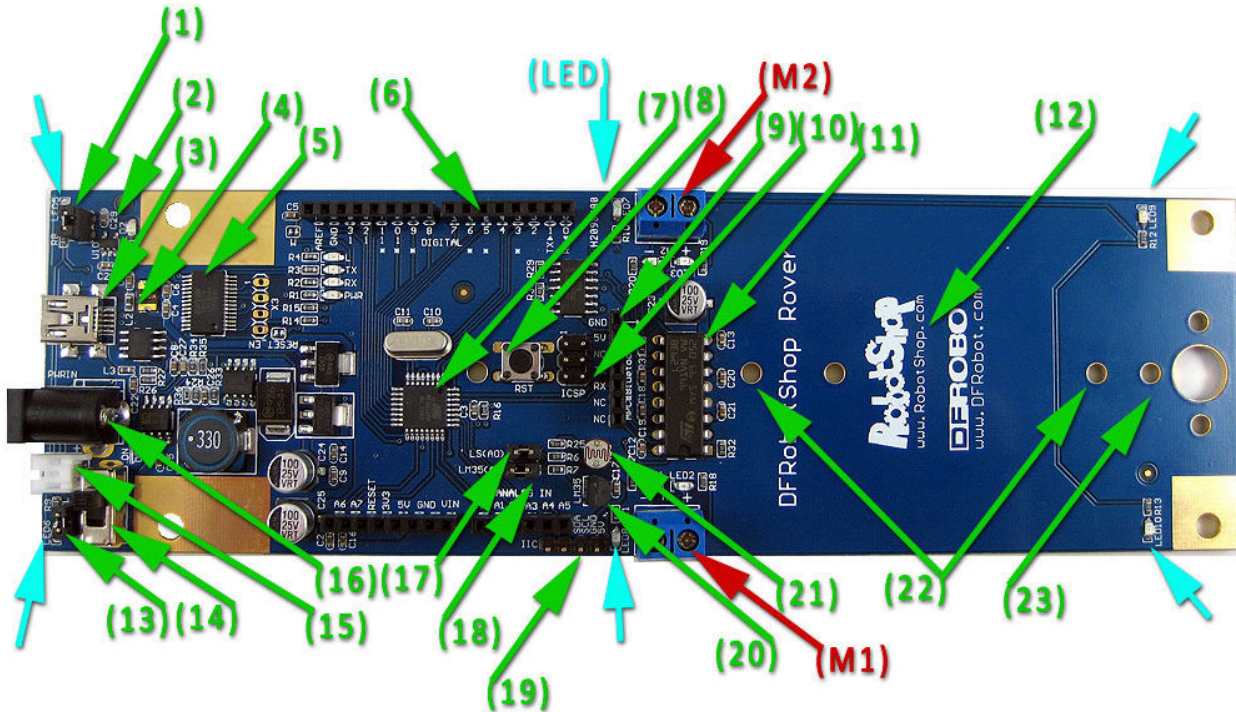

Figure 1: DFRobotShop Rover V1.5 Features
- (14) Motor On/ Off switch
- (15) Mini JST connector (powers board and motors)
- (16) Barrel connector (powers board and motors)
- (17) Light sensor jumper (connects light sensor to analog pin 0)
- (18) Temperature sensor jumper (connects temperature sensor to analog pin 1)
- (19) I2C connector
- (20) LM35 temperature sensor5
- (21) Light sensor4
- (22) 4xAA battery holder holes
- (23) Universal connection point
*\*Important note: jumper (1) in figure 1 should only be in place when using a LiPo battery connected to (15), otherwise remove.*
1. **USB**: Connecting a USB cable (sold separately) will power the microcontroller – not the motors. If you have L1\_SEL jumper in place, it will also charge any LiPo battery connected to the white mini JST connector (15).
- a. **4x AA Battery Pack**: The DFRobotShop Rover includes a 4xAA battery pack which can be connected directly to the white power input at the back of the board. Both alkaline (1.5V) and rechargeable (1.2) batteries can be used, and the batteries power both the board and the motors. Remove jumper (1) in figure 1 when using the AA battery pack.